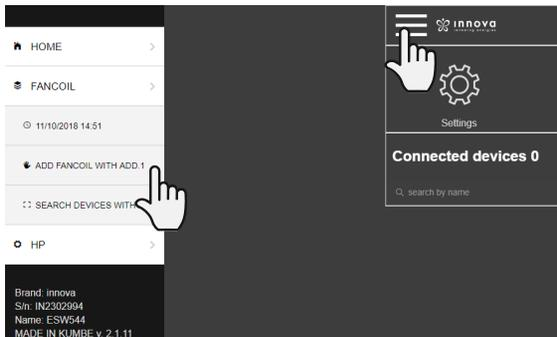

Figure 8.9
4. Then enter the fancoil menu by clicking on the icon at the top left. A list will appear as shown in Figure 8.9